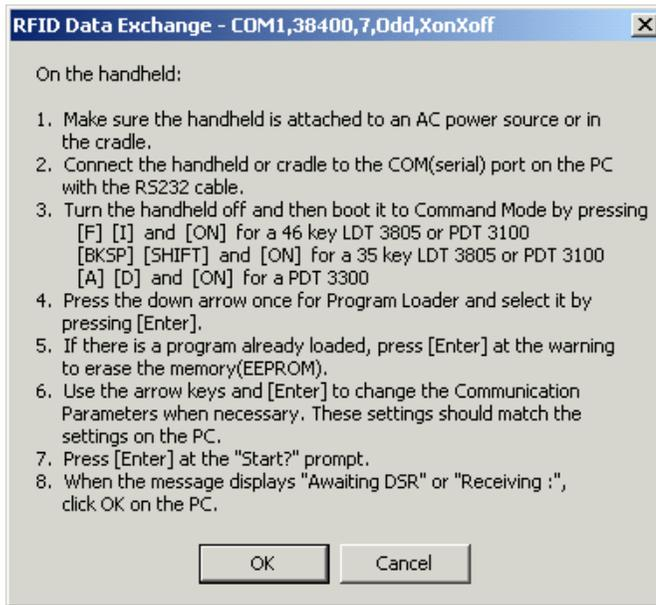

Figure 10. Programming the Symbol PDT
3. Click **Load Handheld Program** in the dialog box. Figure 10 appears.